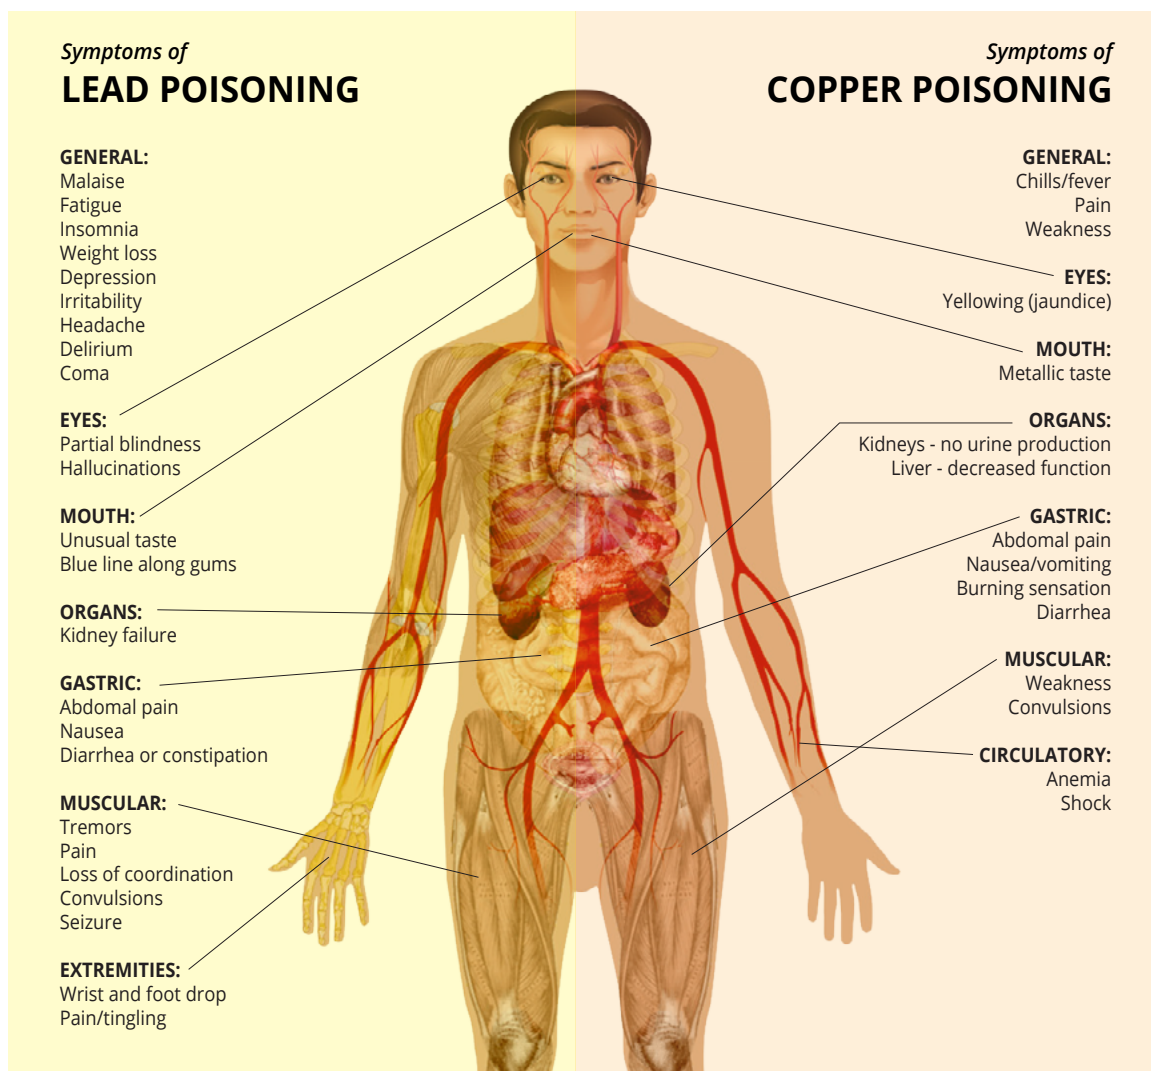

Figure 7: Symptoms of Lead and Copper Poisoning⁷.
A **battery recycling plant** is dedicated to the process of collecting and processing used batteries to recover valuable materials and properly handle potentially hazardous substances. These facilities serve several important purposes, including reducing the need for raw materials, minimizing environmental impacts, and reducing the accumulation of toxic waste. One of the most common types of battery that is recycled at this plant are lead-acid batteries, which are commonly found in vehicles and uninterruptible power supply (UPS) systems. These rechargeable batteries have been used for a wide range of applications due to their reliability, durability, and relatively low cost. Recycling lead-acid batteries is crucial for environmental and safety reasons, as these batteries contain hazardous materials like lead and sulfuric acid. The recycling process involves several steps to recover valuable materials while minimizing environmental impact, and if the steps are not done correctly there are major risks for lead to enter the waterways. Lead is a toxic metal that can have severe health consequences (Figure 7), especially when it contaminates drinking water sources and is ingested or otherwise absorbed by individuals.
7. Figure 7 Based on Mikael Häggström, CC0, via Wikimedia Commons